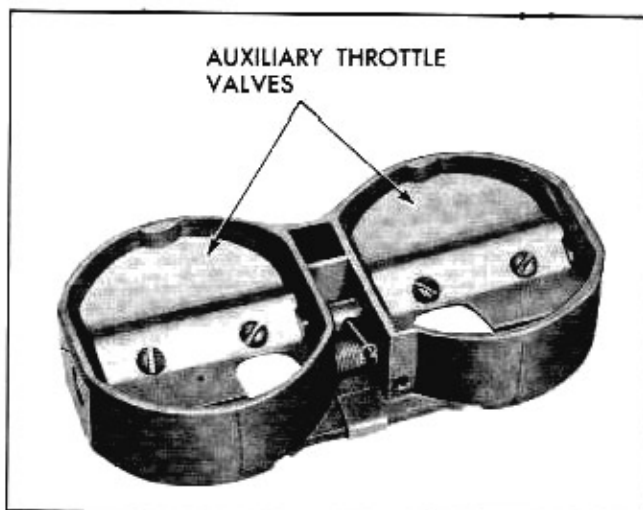

Fig. 6B-81 Auxiliary Throttle Body
2. Remove four throttle body attaching screws (Fig. 6B-79) and lock washers and remove throttle flange.